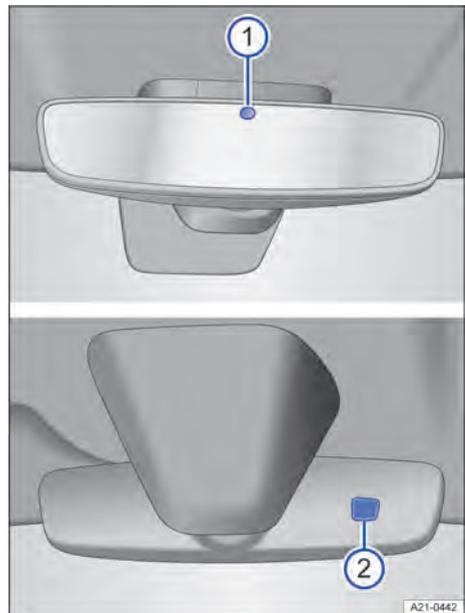

Fig. 91 On the headliner: automatic anti-dazzle interior mirror.
When the ignition is switched on, the sensors measure the incident light from the rear → Fig. 91 ① and from the front ②.